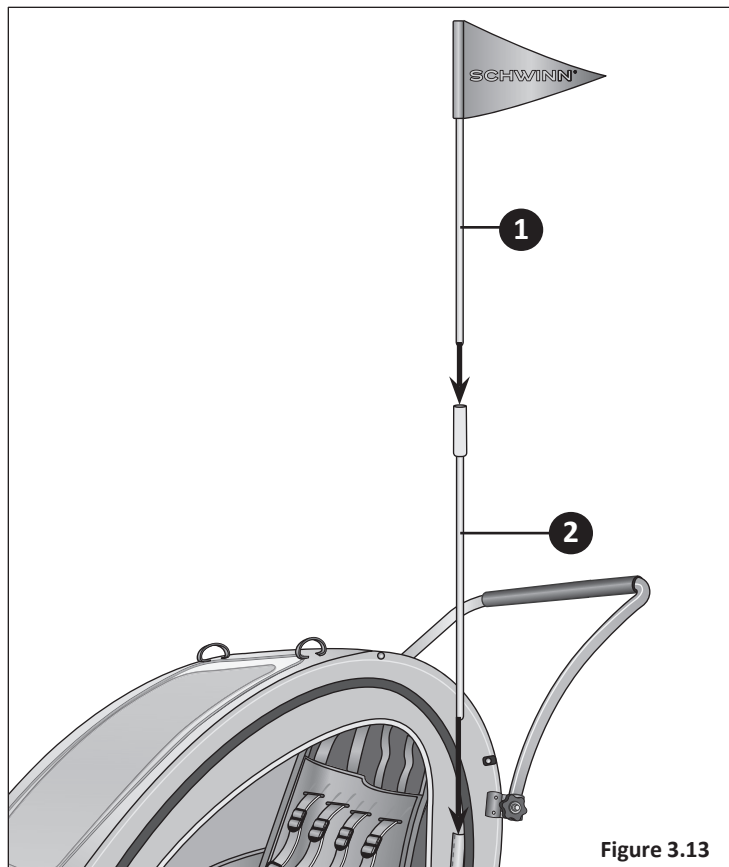

Figure 3.13
- 2 Insert the flag pole into the sleeve located at the rear corner of the trailer. **Figure 3.13**